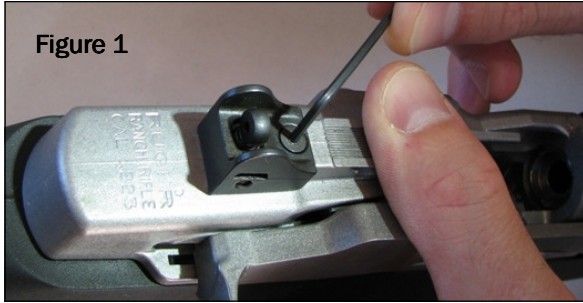
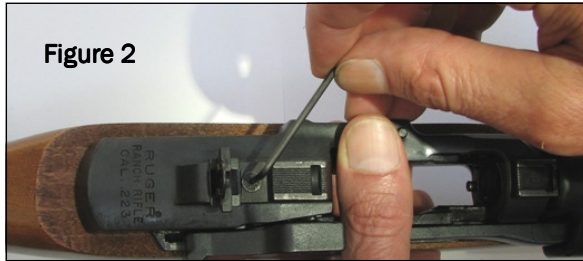

Figure 1
Figure 2
5. Remove the rear sight as shown in Fig. 1 (for 5800 series) or Fig. 2 (for pre-2005 Ranch rifles).